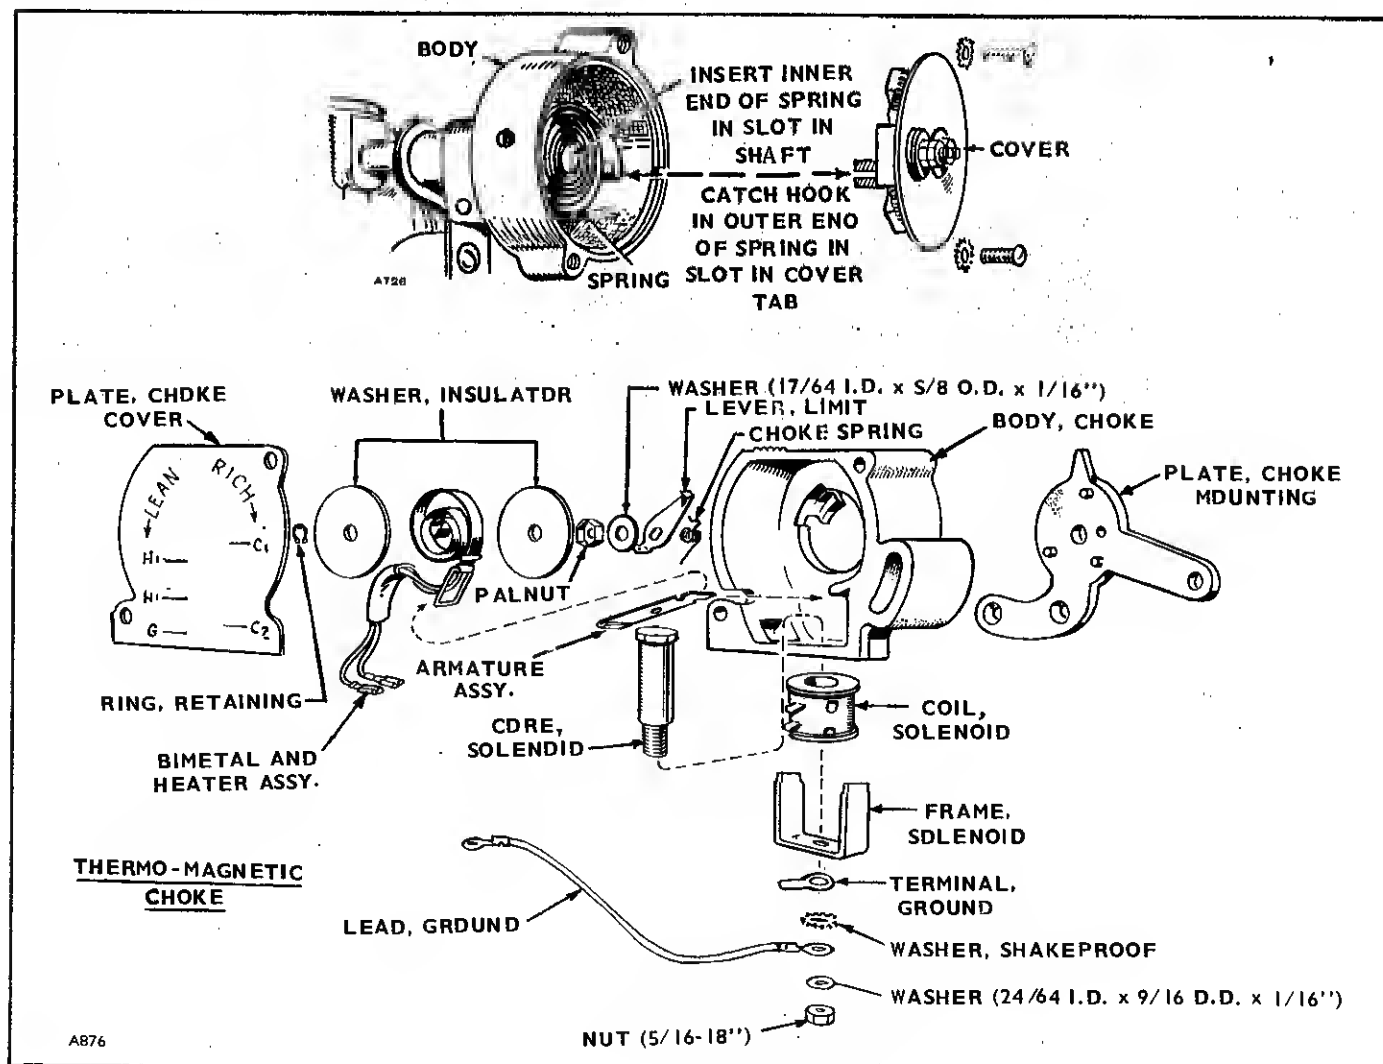

FIGURE 11. EXPLODED VIEW: ELECTRIC CHOKING
**Disassembly and Repair, Electric and Thermo-Magnetic Choke:** If the choke does not operate, or will not maintain its adjustment, disassemble it for repair. If it will not close, check for binding, incorrect adjustment, or incorrect assembly of the coil. If it will not open after plant starts, check for heating. The choke should be warm to the touch within a minute or two of plant starting. To disassemble choke refer to Fig. 11.
**Assembly (Fig. 11):** When assembling electric choke be sure the fork in the plate straddles and holds the outer end of the coil and that the spring winds in a clockwise direction from center.